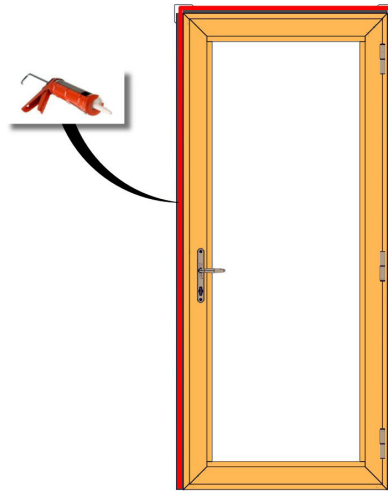

Fig. 7
2. Install a continuous bead of sealant around the interior side of the position fin. (Fig. 7)